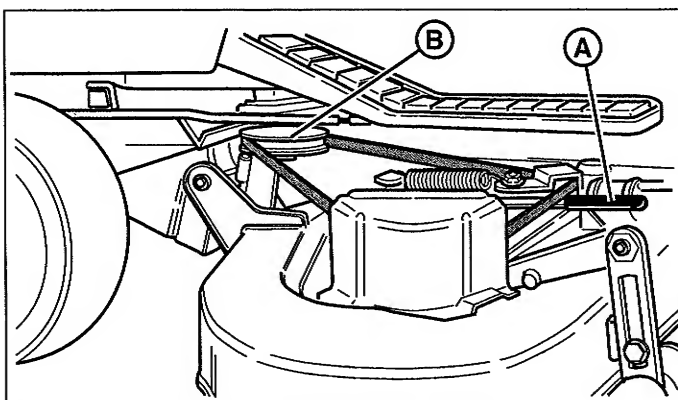

Figure 10. Removing & Installing Belt
4. Remove belt from PTO pulley (B, Figure 10).
5. Remove belt from PTO pulley (B, Figure 10).